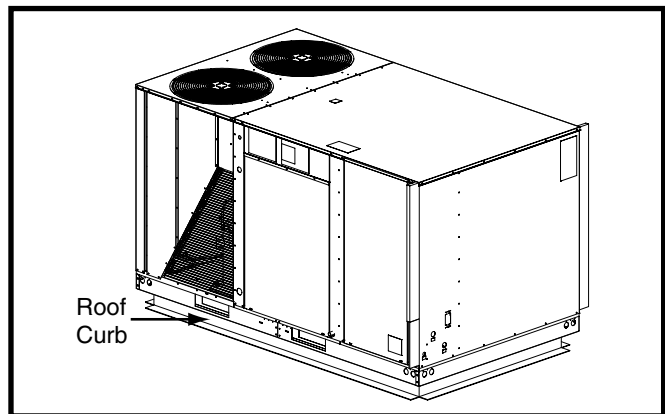

Figure 6. Roof Curb
- The appropriate accessory roof curb (Figure 6) must be installed prior to unit installation. The roof curb must be square and level to ensure proper condensate drainage. **Please follow all instructions provided with the kit.**